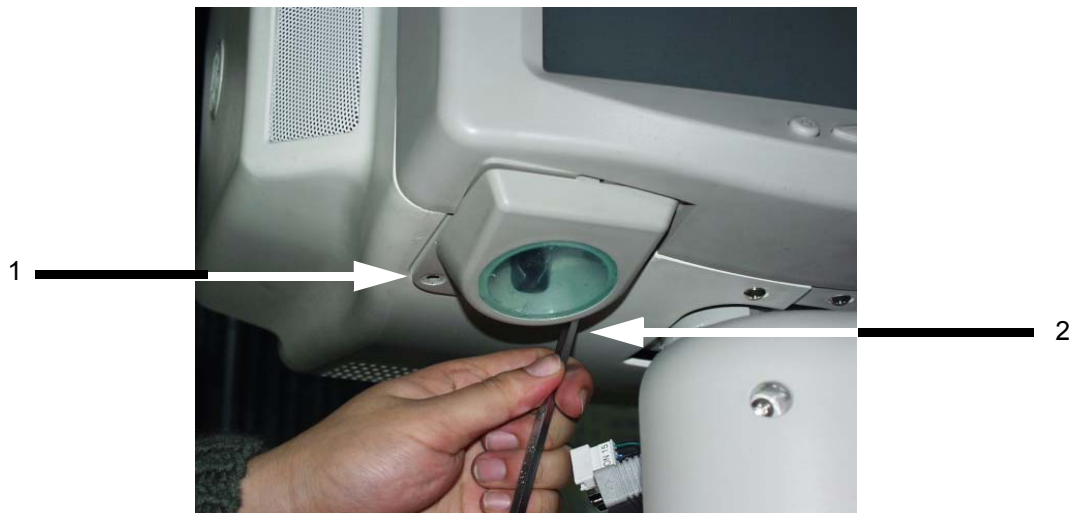

Figure 8-45 Removing Task Lamp Cover
- 1.) Unscrew two (1-2) screws to remove the TaskLamp Cover. Refer to Figure 8-45 on page 8-11 .